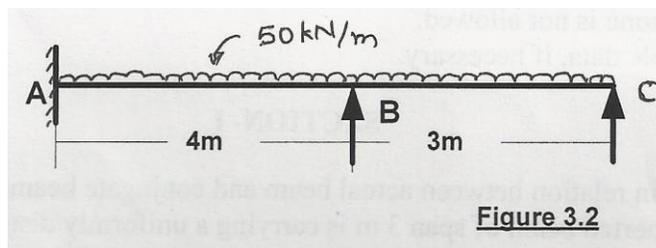

Figure 3.2
b) Analyze the beam loaded and supported as shown in Figure 3.2 if the support 'B' sinks by 5mm . Assume EI constant. Take $E=200\text{GPa}$, $I=332 \times 10^6 \text{ mm}^4$. Use Three Moment Theorem. (8)